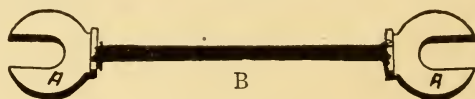

FIGURE 26.
(79) A link fuse is nothing more than a fuse wire at each end of which is attached a copper clip, as shown in Fig. 26. They must not be used except by order or consent of the authorities, and then only in metal or other approved cabinet provided with a self-closing